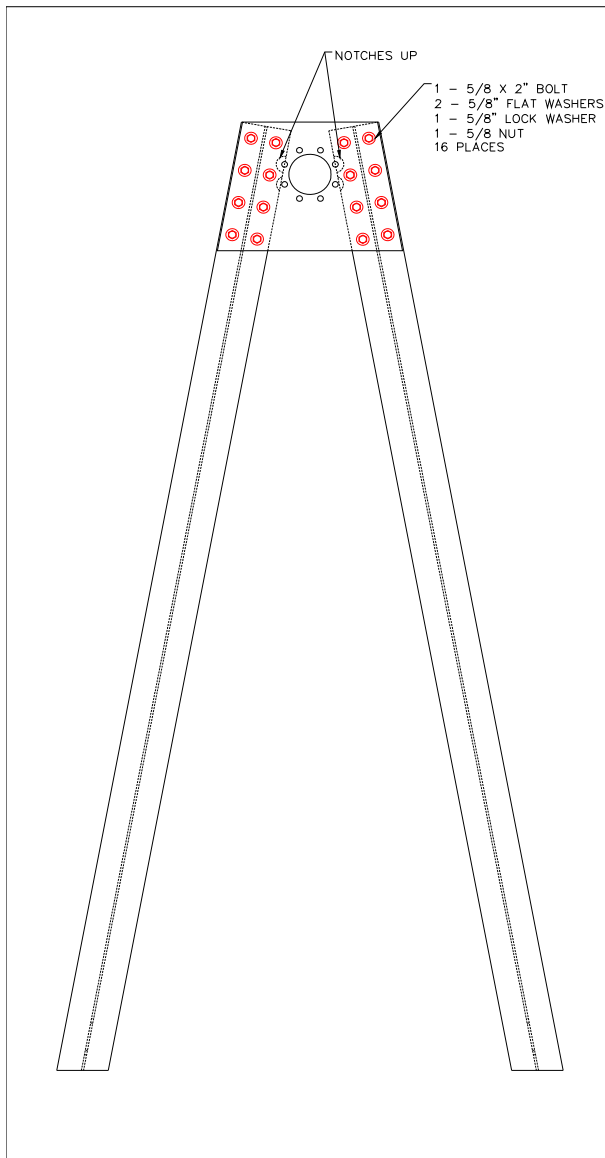

Figure 4-4 Assembly steps 4 and 5
- (4) Lay the left and right “joint side” legs (Items 4 and 5, Table 2-1) on the ground with the round notches facing upwards.
- (5) Place the front “joint side” plate (Item 13, Table 2-1) on top of the legs and loosely fasten the sixteen outside 5/8" bolts. Refer to Figure 4-4.